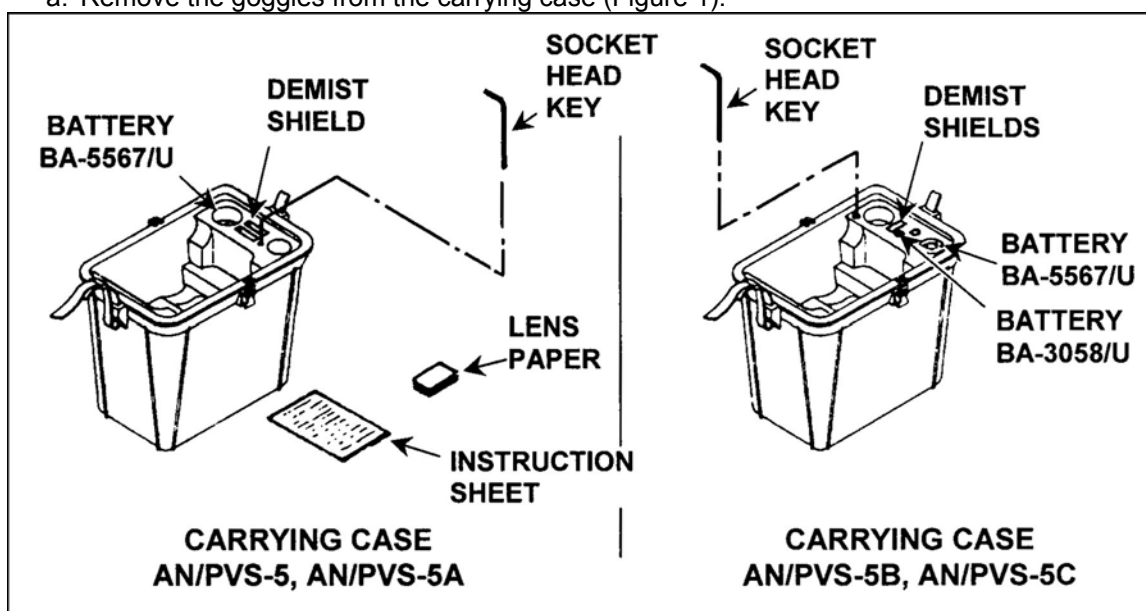

Figure 1. Carrying case items.
- a. Remove the goggles from the carrying case (Figure 1).